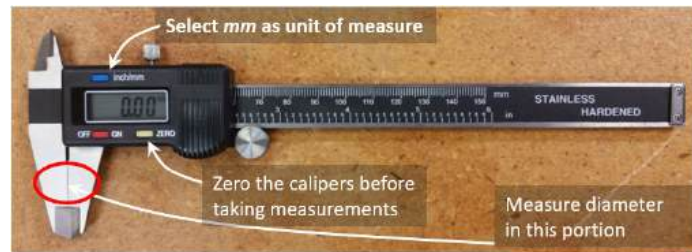

Figure 3 Digital Calipers
- (2) Use calipers (see Figure 3) to measure the diameter of each specimen at three locations. Record the diameter to an accuracy of 0.02 mm. Make sure your units are mm, not inches!